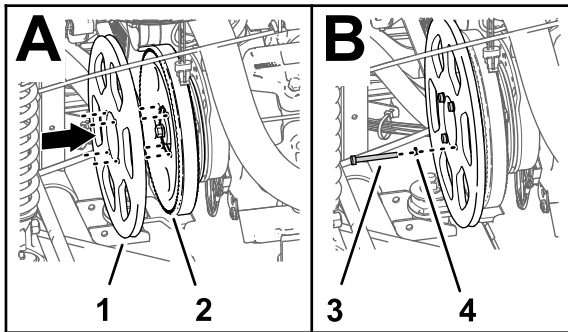

**Figure 181**
3. Remove the 4 bolts (1/4 x 1 inch) and 4 lock washers (1/4 inch) that secure the pulley to the sprayer pump (Figure 181).